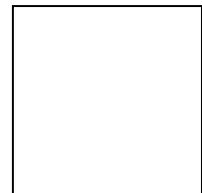

Figure 8
4. Mount the comparator/guard support bracket to the back of the machine as shown in Figure 8. Use the supplied 6mm allen head bolts to securely mount the bracket to the machine.